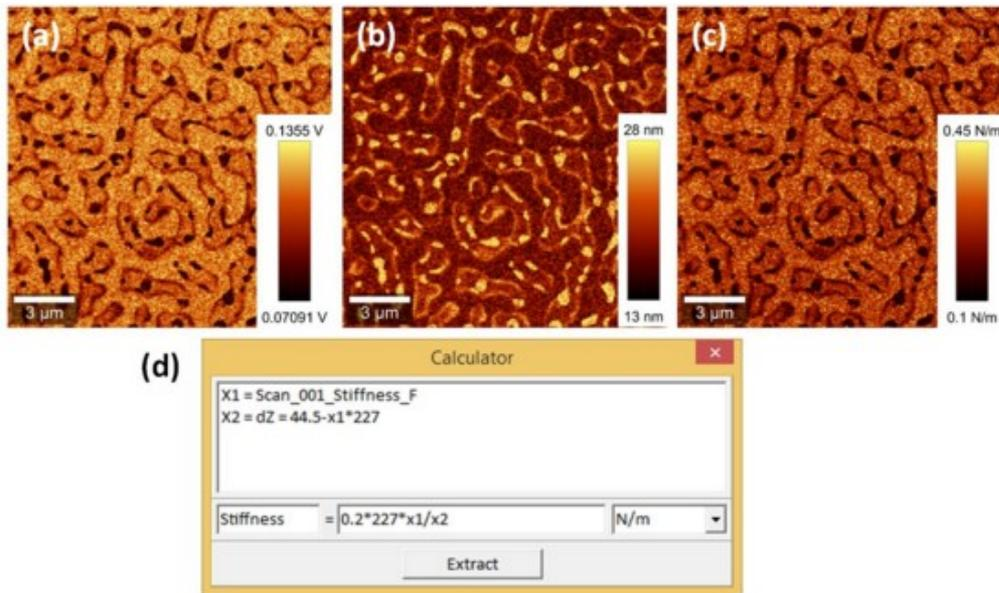

Fig. 5: Measured stiffness image (a), penetration depth (b), stiffness image evaluated using equation (14) and the calculator tool (d)
For the example shown in Fig. 5 the result is:
Equation 14 can be used directly in conjunction with the calculator tool as shown in Fig. 5 \(d\).
1. Select Polynomial as the category and 1 as the Polynom Order (see Fig. 5 (a)).
2. Select the fit range as shown in Fig. 5 (c) and note the width of the selected window Δ rad.
Fig. 5: Advanced fitting tool for 1st order polynomial fit (a), graph viewer which opens together with the fitting tool (b) and graph window showing the selected range of interest together with the blue fitting curve (c).